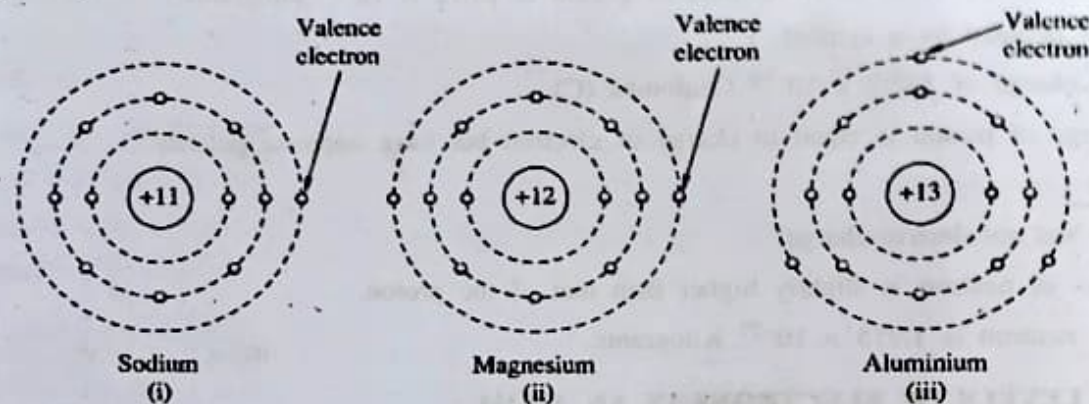

FIG. 1.4
- (1) When the number of valence electrons of an atom is less than 4, the materials is usually known as a metal. Examples are sodium, magnesium and aluminium which have 1, 2 and 3 valence electrons respectively (see Fig. 1.4).